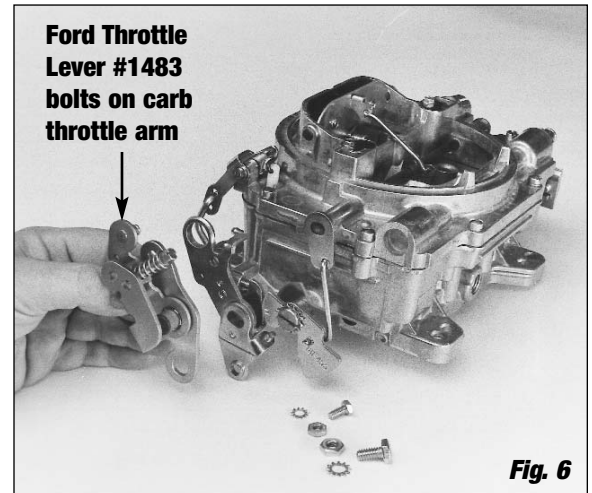

Fig. 6
1. Compare throttle arm of your new carburetor with the old one to be sure that all required linkages will hook up. Install proper throttle and transmission linkage for your particular application. Throttle stud is removable and must be installed in the proper location. Chrysler vehicles with automatic transmission will require Throttle Lever Kit #1481. Ford vehicles with automatic transmission and cable linkage will require Throttle Lever Kit #1483 (**See Fig. 6**) and Throttle Cable Plate Kit #1490 (for 289-302), #1491 (for 351-W), #1493 (for 351-C & 351-M/400), or #1495 (for 429/460).